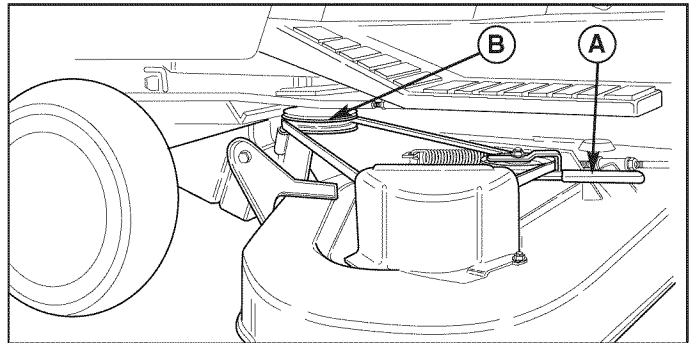

Figure 5. Removing & Installing Belt
3. Move idler arm (A, Figure 5) to relieve belt tension. Remove belt from PTO pulley (B).
5. Move idler arm (A, Figure 5) to relieve belt tension. Install belt onto the PTO pulley (B).